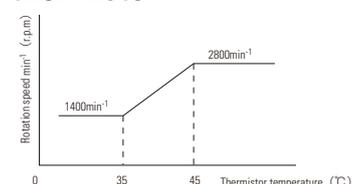

Fig. 6
- (1) The fan selected was a 109P1212T4H12 thermal speed controlled fan having a performance equal to that of conventional fans at high speed.
- (2) The relationship between the temperatures of important components and those of the cooling fin can be measured with varied loads on the equipment and varied air flows of the fan. Since a correlation was determined, the thermistor can then be placed on the cooling fin, one of the important components.
- (3) Next, in view of the thermal design conditions of the equipment, the fan is set to high speed at an ambient temperature of 30°C and an equipment load of 100%.
- (4) At an ambient temperature of 30°C and an equipment load of 100%, the temperature of the cooling fin was 48°C and the surface temperature of the thermistor placed on the cooling fin was 45°C when the fan was running at high speed. It was therefore decided to add a 1.5 K Ω resistor in series with the thermistor according to Table 1. In this case, the thermistor temperature is 35°C and the fan runs at low (see Table 1 and Fig. 6).